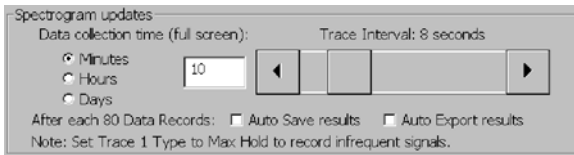

Figure 3-17: The Spectrogram Updates field.
2. Tap the **Spectrum** tab. Figure 3-17 shows the Spectrogram Updates field of the Spectrum tab.
2. Tap the **Spectrum** tab. See Figure 3-17.